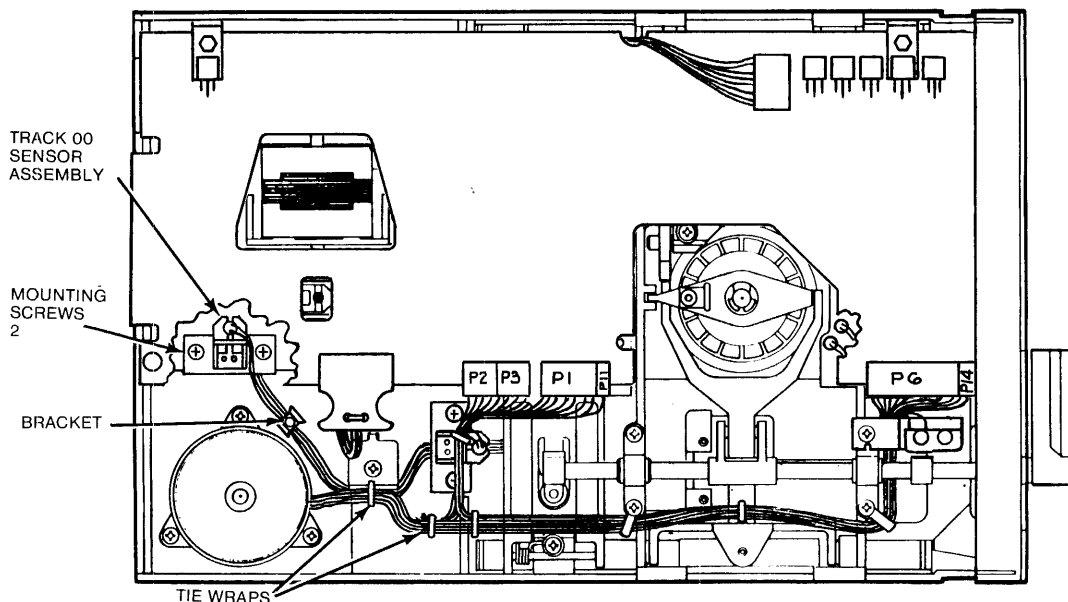

Figure 5-13
- B. Cut the tie wraps that hold the cable harness, and remove the P2 wires (see Figure 5-13).